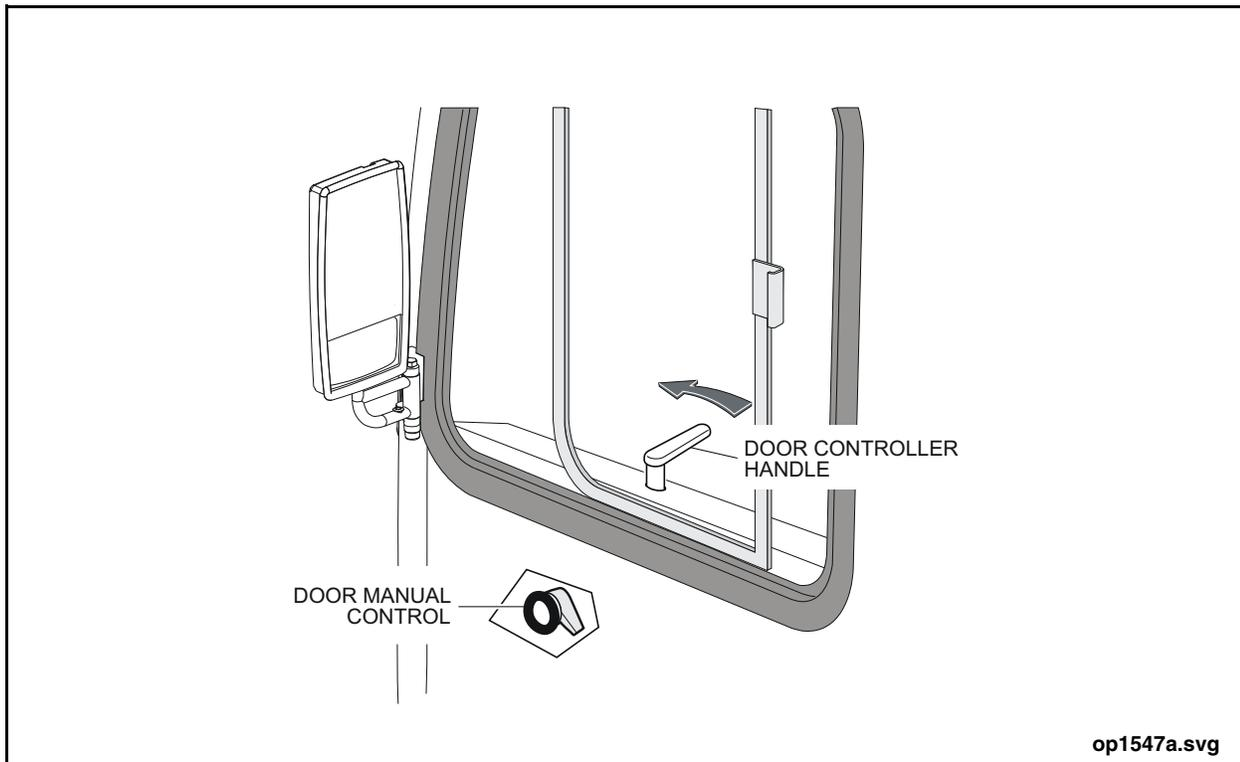

Figure 8: To Enter the Vehicle
1. Slide the front portion of the driver's window back to gain access to the door controller handle on the side console. See "Figure 8: To Enter the Vehicle" on page 28.